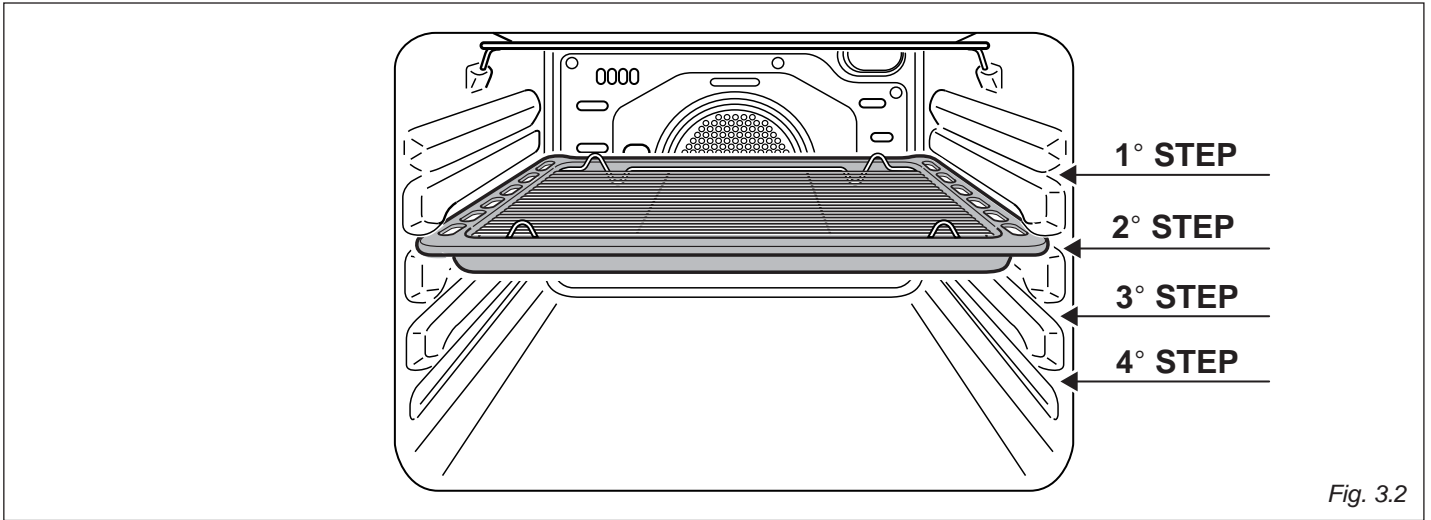
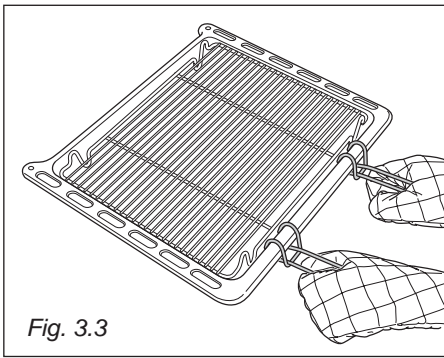

Fig. 3.2
Fig. 3.3
- Introduce the grill-pan (tray + grid) in the oven (fig. 3.3) and insert it on the first or second level from the top (fig. 3.2).
Important: Use always special handles supplied with the appliance to insert/remove the grill-pan from the oven (figs. 3.3, 3.4, 3.5).